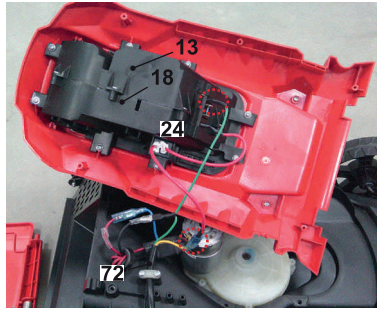

Fig. 9
2. Separate the two connectors by a suitable nose plier (Fig. 9) as marking in red circle and the corresponding wiring system:
- a) **Terminal** of battery compartment (right) (13) – **Green** lead wire (24) for battery compartment
- b) **Red** lead wire of battery compartment (left) (18) – **Yellow** wire of control cord (72)